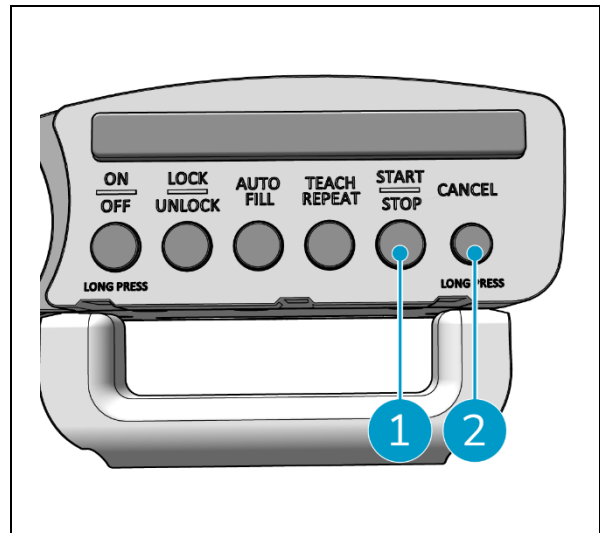

Figure 39
1. Position the i-walk in front of the QR code. The Start/Stop button (Figure 39, pos. 1) will flash blue when the QR code is recognized.
2. Press and hold the Cancel button (Figure 39, pos. 2) for a few seconds. A beep will confirm the deletion of a cleaning path.